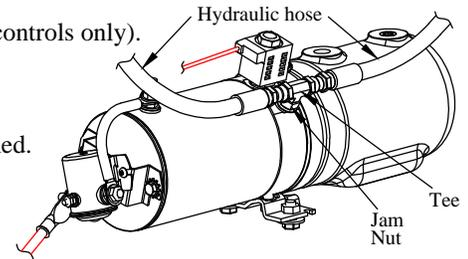

Figure 2: Hydraulic hose and Tee.
1. **DISCONNECT** the hydraulic hose from the tee on the power unit housing (Figure 2).